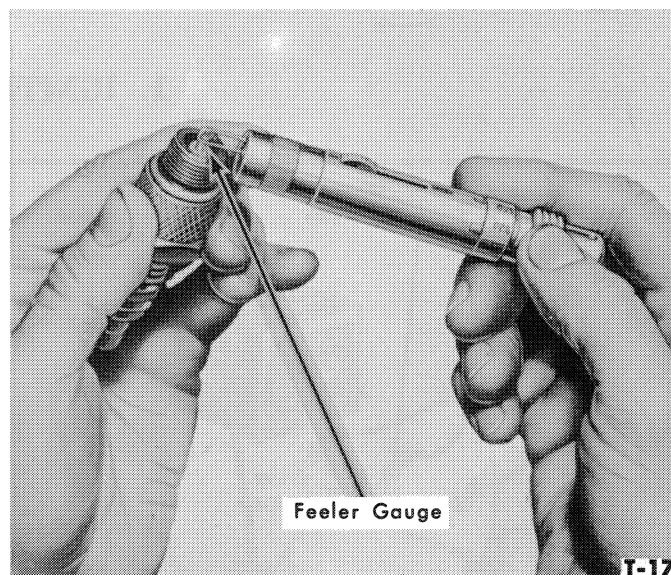

Figure 3—Checking Spark Plug Gap
4. Always use a round wire gauge to check the air gap, see Figure 3, as a feeler gauge will not measure the depression generally burned in the electrodes. Correct air gap is 0.025 to 0.028" for gasoline engines or 0.028 to 0.031" for LP-Gas engines. H-10 heat range plugs (gasoline engine) or H-8 (LP-Gas engines), or equivalent, are engineered to give the best operating results and should always be used when installing new plugs. Size of the spark plug is 14 mm.